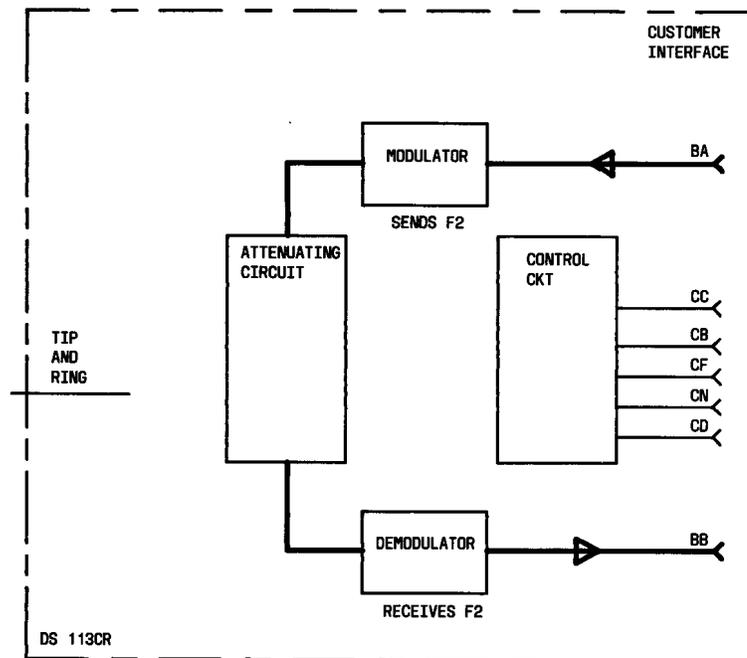

Fig. 1—Analog Loopback Test Mode—Simplified Block Diagram
**2.03** In the analog loopback test mode (Fig. 1), the data set is isolated from the telephone line. During this test the data set circuits are modified to keep both the transmitter and the receiver in the f2 mode. The output of the transmitter is looped via an attenuating circuit to the receiver. During this test, the telephone set and telephone ringer remain functional.